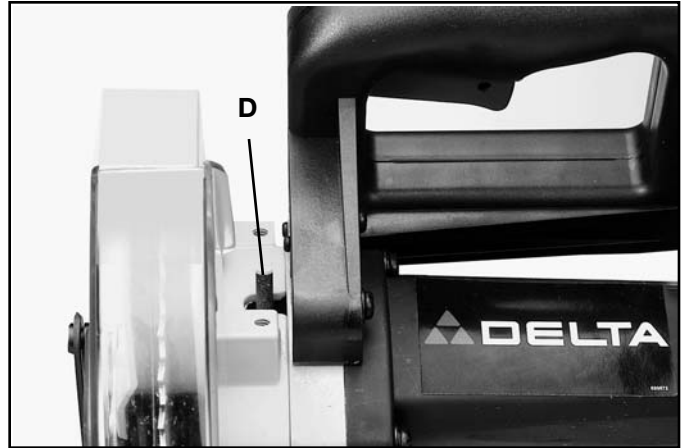

Fig. 51
4. Remove arbor screw (C) Fig. 50, by turning screw clockwise with wrench supplied while at the same time pressing in on arbor lock (D) Fig. 51, to keep the arbor from turning. Remove outside blade flange (E) Fig. 50, and saw blade (F). **DO NOT REMOVE INSIDE BLADE FLANGE.**
5. Assemble new saw blade **MAKING CERTAIN TEETH OF SAW BLADE ARE POINTING DOWN AT THE FRONT, AS SHOWN** and assemble outside blade flange (E)
6. Thread arbor screw (C) Fig. 50, into saw arbor by turning screw (C) counterclockwise as far as possible by hand. Then tighten arbor screw (C) with wrench supplied while at the same time pressing in on arbor lock (D) Fig. 51, to keep arbor from turning.